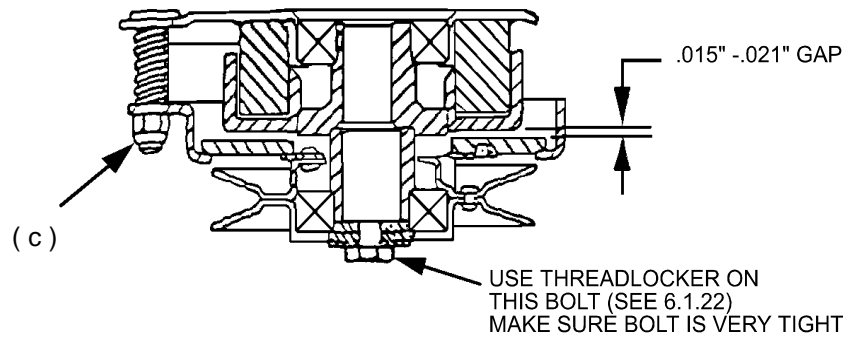

FIG. 12
- c) Place .015-.021 inch feeler gauge through each of the three clutch gap holes. If gap exceeds this range, tighten the three adjusting nuts (c) until the proper gap is obtained (See Figure 12). The three clutch gap holes are located at the "nut side" of the adjusting bolts. The adjusting bolts can be identified by the springs surrounding each bolt.